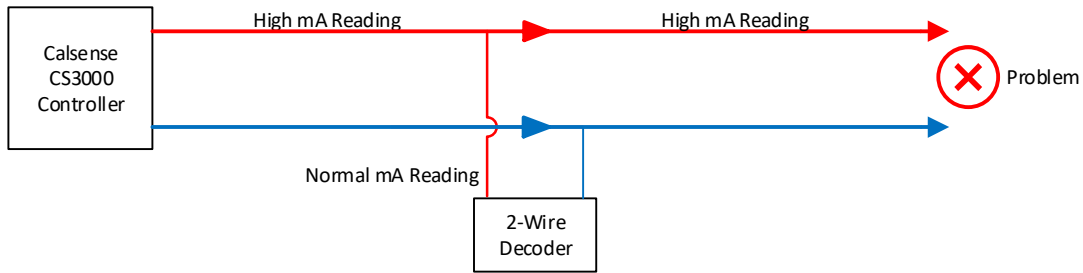

Figure 3 - Visual depiction of problem occurring downstream of measurement.
- If the reading is higher than expected at all three locations, the excessive current is occurring farther down the path, as shown in Figure 3 below. Continue down the 2-Wire path to the next mid-point between this location and the end of the 2-Wire path. Repeat steps 1-2 until you've identified the issue.